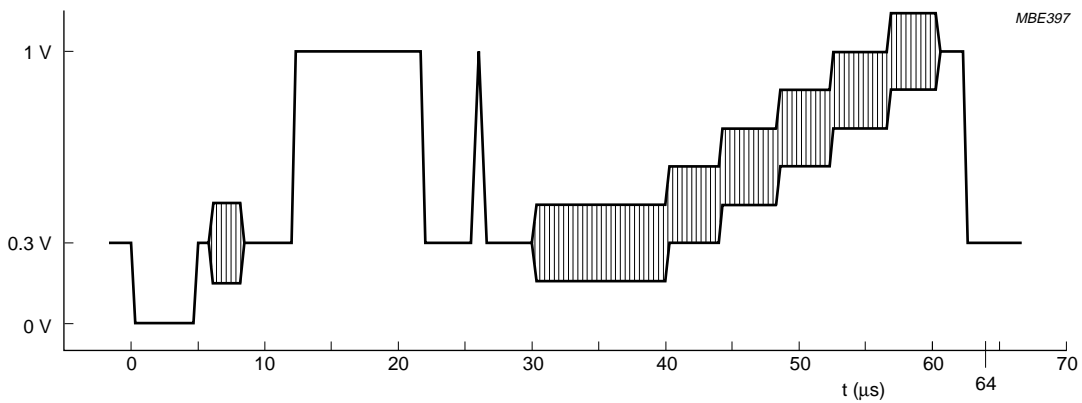

Fig.5 CCIR insertion line 330.
- Measured on CCIR 330 line, corresponding to a 5-step staircase with a chroma carrier of amplitude equal to 0.3 times the voltage between sync pulse and white (see Fig.5). The video signal is 500 mV (p-p). The modulation depth is adjusted using the I²C-bus to MD setting = 4 (82.5% typical modulation depth).